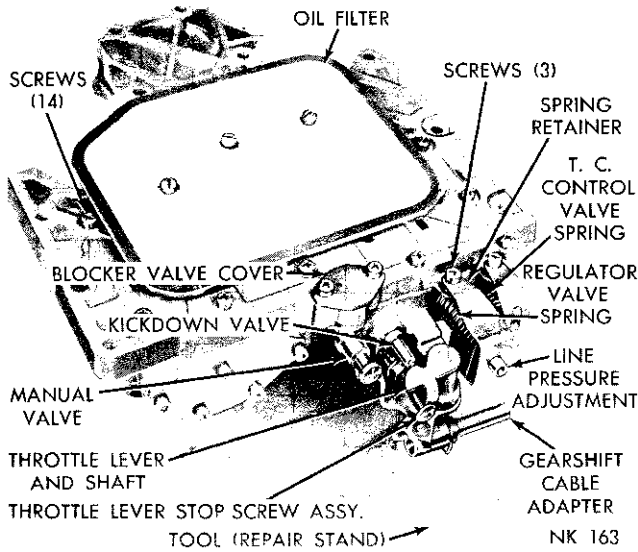

Fig. 58—Valve Body and Control Assembly
(1) Place the valve body assembly on a repair stand, Tool C-3749 (Fig. 58). Remove three screws from the oil filter and lift off the filter and gasket.
(2) While holding the spring retainer firmly against the spring force, remove the three bracket retaining screws (Fig. 58).
(3) Remove the spring retainer, torque converter control valve spring, and the regulator valve spring with line pressure adjusting screw assembly.